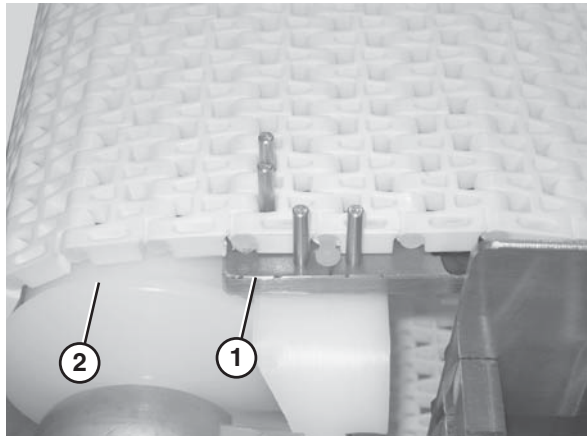

Figure 44
1. Secure the retaining head side of the belt. Use the belt removal tool (**Figure 44, item 1**) for 1" pitch belts. For all other belts, position the section of belt so that it is braced by the flanged puck (**Figure 44, item 2**).